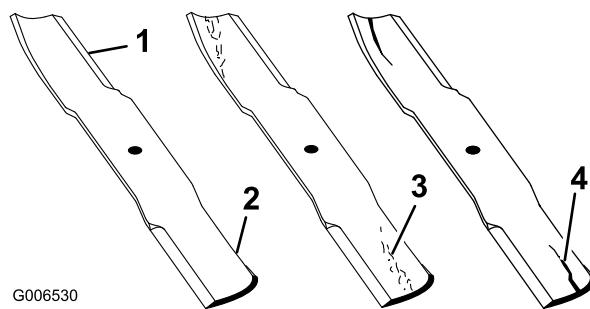

Figure 39
1. Inspect the cutting edges (Figure 39). If the edges are not sharp or have nicks, remove and sharpen the blades; refer to Sharpening the Blades.
2. Inspect the blades, especially the curved area (Figure 39). If you notice any damage, wear, or a slot forming in this area (item 3 in Figure 39), immediately install a new blade.